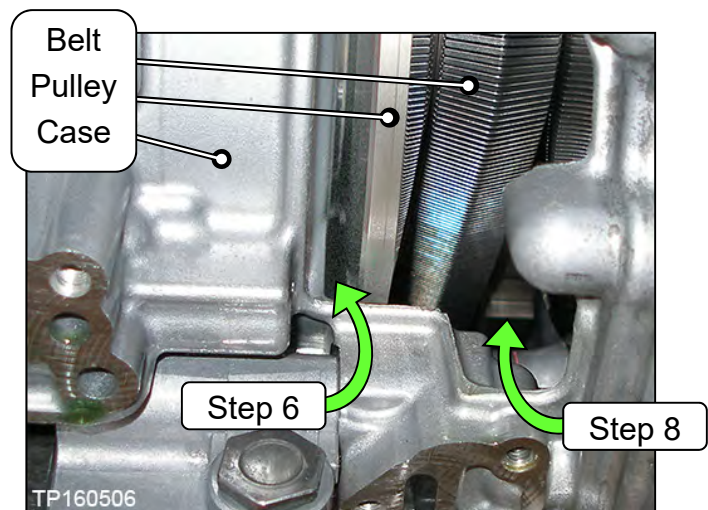
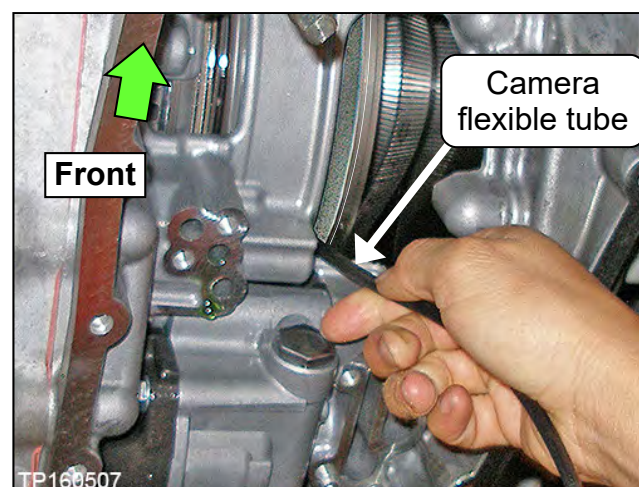
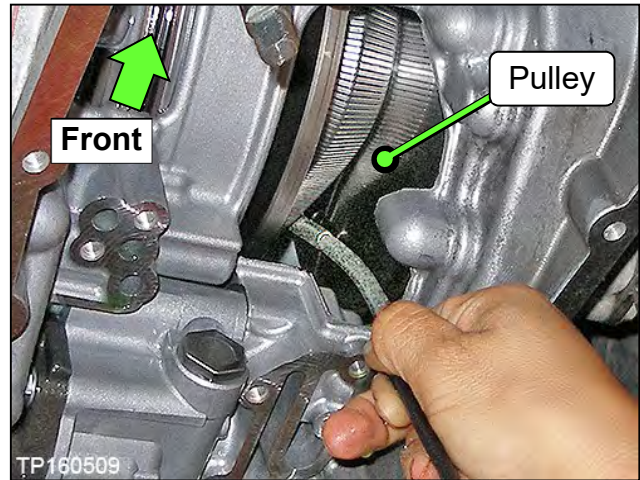

Figure 10
Figure 11
Figure 14
6. Using borescope J-51951 with its mirror attachment, insert the camera lens between the CVT case and pulley where shown in Figure 10 and Figure 11.
- Insert the lens approximately seven (7) inches, and then view the side of the belt that contacts the pulley.
8. Insert the camera lens in the second location where shown in Figure 10 and Figure 14, and then perform step 7 again.